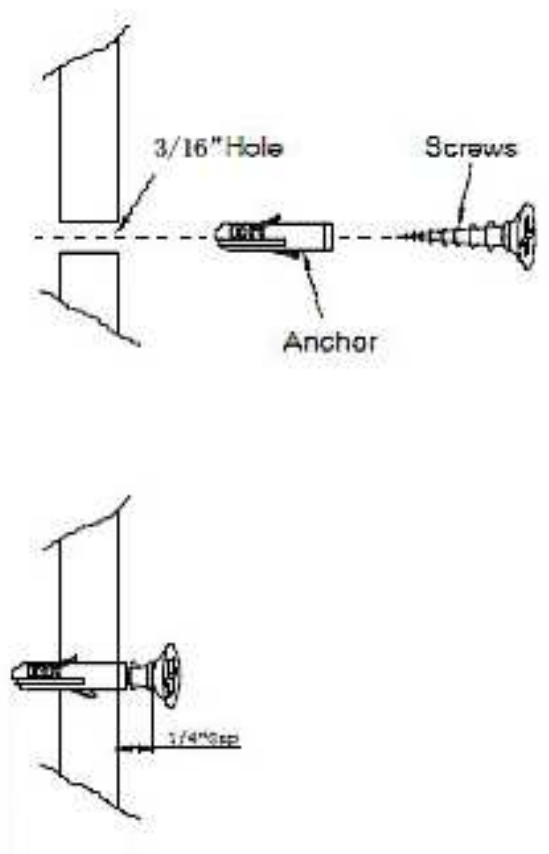

Figure 7
Insert one of the plastic anchors into one of the two 3/16” holes, see Figure 7. Make sure that the wall anchor is flush with the wall.
Step 12: Using the Phillips head screwdriver install one screw into each of the anchors, see Figure 7. Turn the screw in until there is a gap of 1/4” between the head of screw and the wall surface.